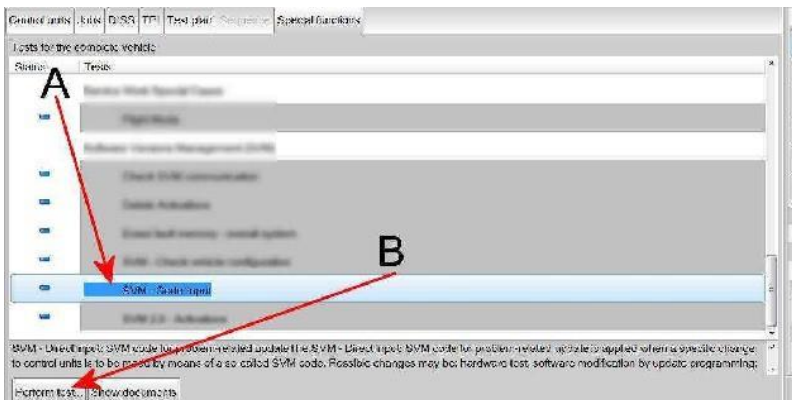

Figure 1
- Because of the highest transmission stability you **MUST** use the diagnosis interface VAS 6154 (WiFi diagnostic tool) **ONLY** in USB operation or the cable-connected VAS 5055 for the reprogramming (updating) of control modules. If these units are not available, the diagnosis interface VAS 5054 (A) can also be used in USB mode
3) Referring to Figure 1 - Within the Special functions tab - Select SVM - Code Input (Point A)